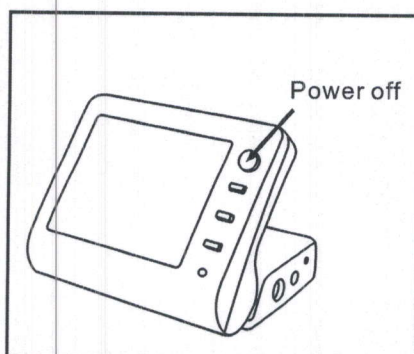

Fig.28
- Power off the instrument, connect the test wire to the main unit.(Fig.28)